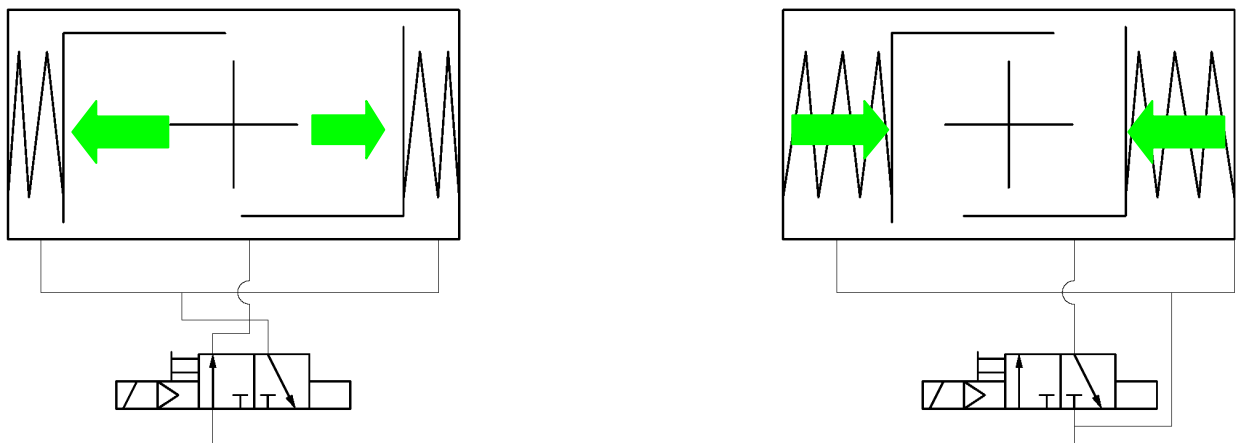

Figure 2 :Schematic diagrams for single-acting actuators EB SYS
- ▶ single-acting actuators with spring reset EB SYS are shown in Figure 2.
<p>In the standard design of the actuator, the supply of control air via the connection on the left must cause an anticlockwise actuation, and supply via the connection on the right must cause a clockwise actuation. Spring-resetting actuators must only be supplied via the connection on the left, see Figure 2</p>